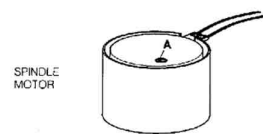

Fig. 7 MDA. 00885
- Adjust the period time of the index pulse for $200 \pm 0.5 \text{ ms}$ by means of a screwdriver in alignment point A (see figure 7) of the spindle motor.